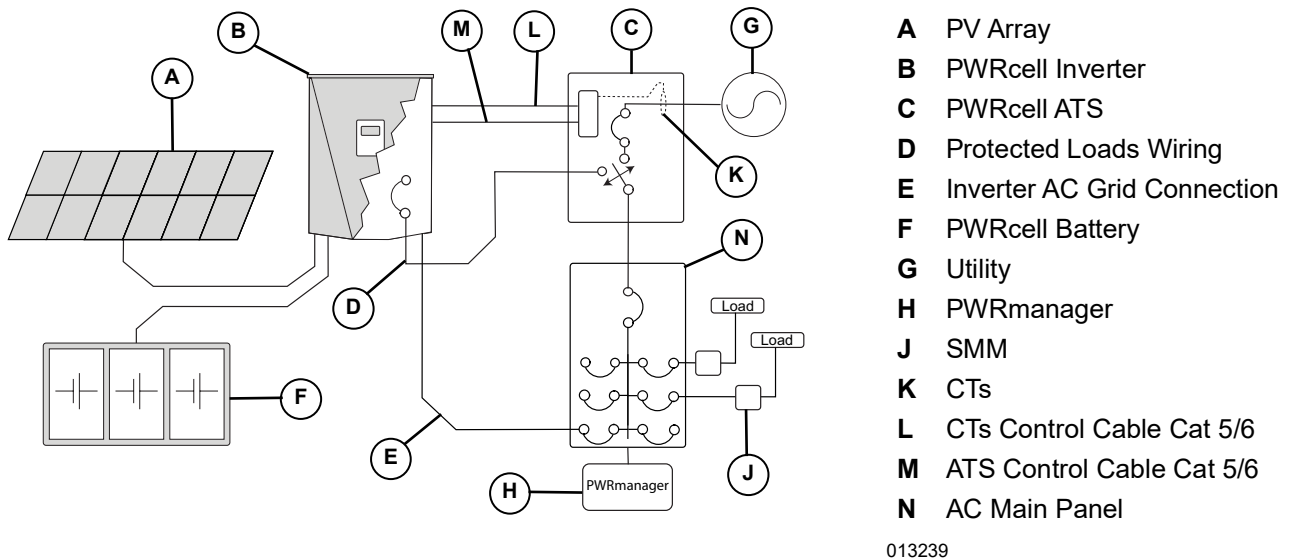

Figure 5-9. Managed Whole Home Backup
1. See Figure 5-9. Land service entrance conductors at the 'N' terminals of the PWRcell ATS.